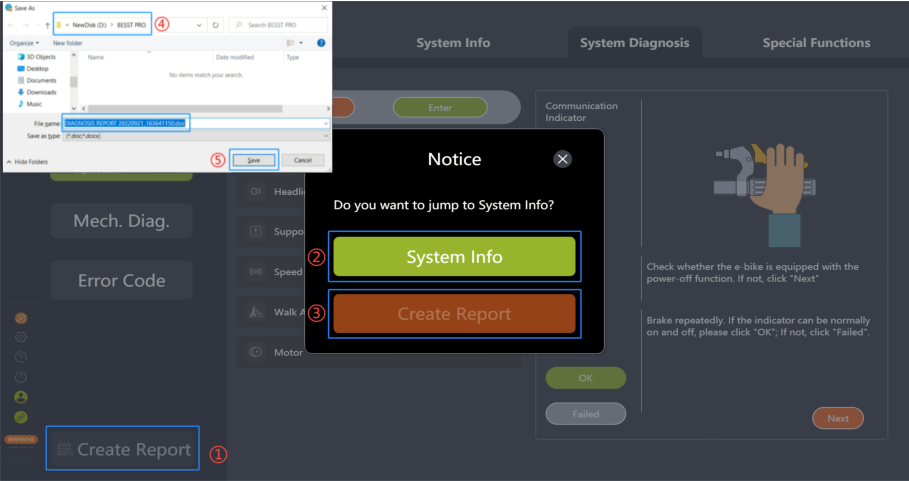

Fig 6-6 Create Report in System Diagnosis
1. Click "Create Report", and a pop-up window will prompt "Do you want to jump to System Info?" (Figure 6-6).